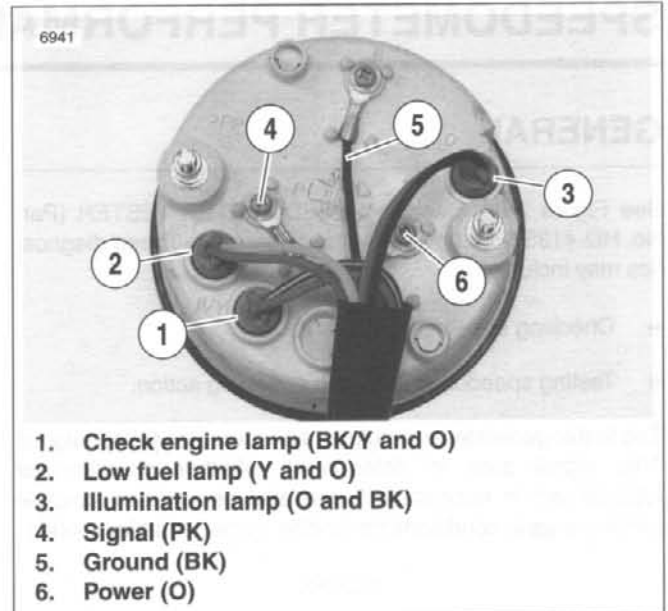

Figure 7-66. Tachometer Wiring
5. See Figure 7-66. Remove wires from tachometer.
- c. See Figure 7-66. Insert lamps (1, 2 and 3) into their appropriate bores.
4. See Figure 7-66. Install tachometer cover (5).
- b. Apply LOCTITE THREADLOCKER 243 (blue) to both nuts (metric) (3).
- c. Fasten cover (5) to tachometer using two nuts (metric) (3) and lockwashers (4).